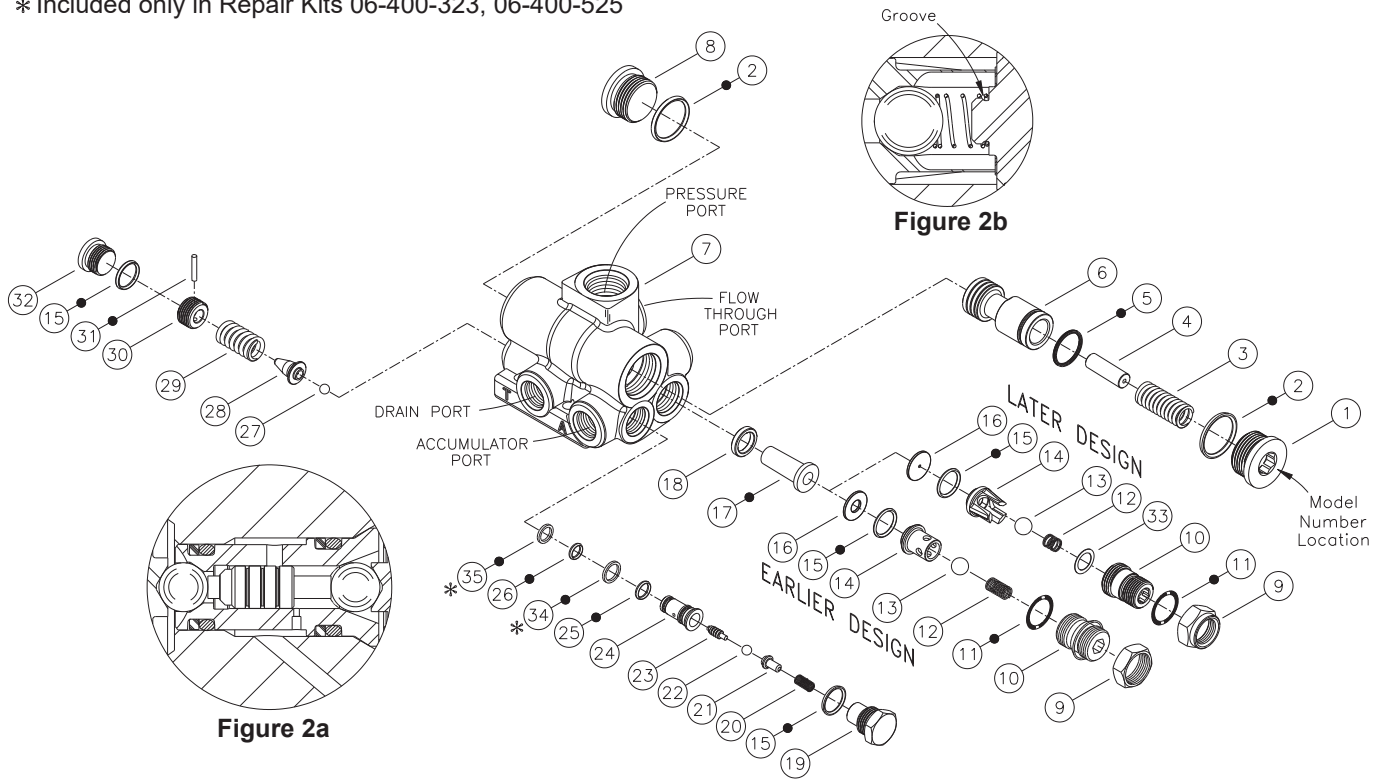

FIGURE 2
(Refer to Figure 2)
1. Install new o-ring (2) on plug (8). Install plug (8) into housing (7) and torque 122.0-135.6 N·m (90-100 lb-ft).
2. Install new quad ring (5) on spool (6). Be sure quad ring (5) does not twist in groove.
3. Lubricate spool (6) with clean system fluid and insert into housing (7) as shown in Figure 2.
4. Install spring (3) and rod (4) into housing (7).
5. Install new o-ring (2) on plug (1). Install plug (1) into housing (7) and torque 122.0-135.6 N·m (90-100 lb-ft).